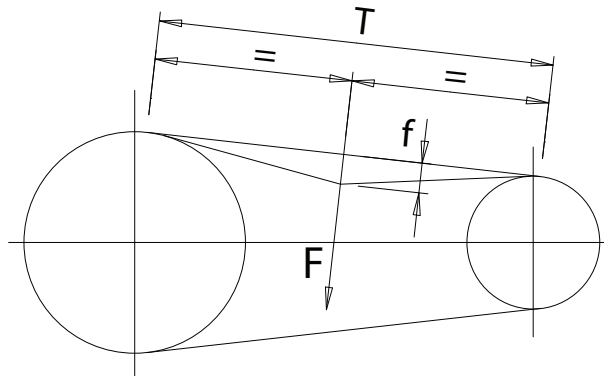

Fig. 15 Tension of belts
- 1) measure the free section **T** (Fig. 15 on page 51);